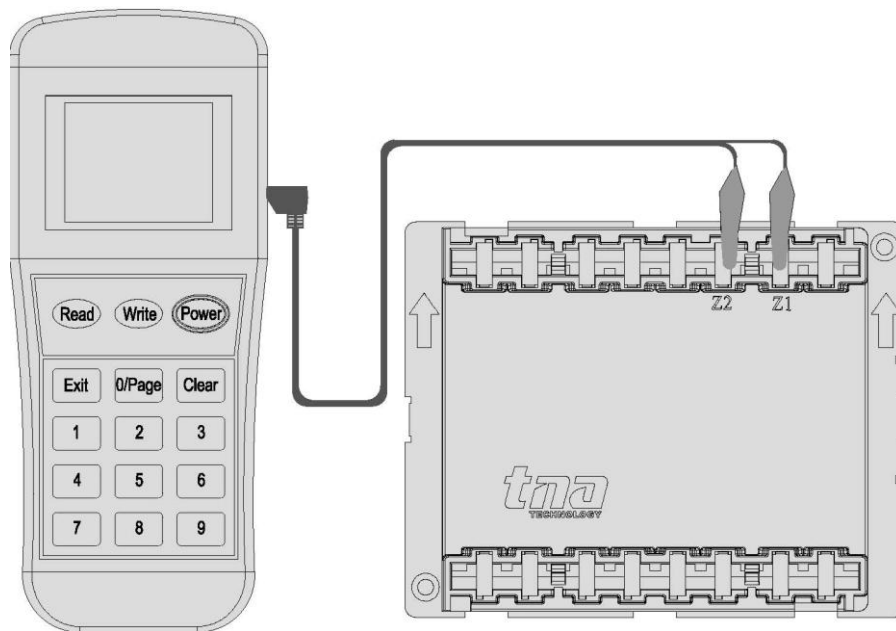

Figure 3
1. Connect the programming cable to Z1 and Z2 terminals (Figure 3). Press **"Power"** to switch on the unit.
1. Attach the programming cable Z1 and Z2 terminals (Figure 3). Press **“Power”** to switch on the unit.